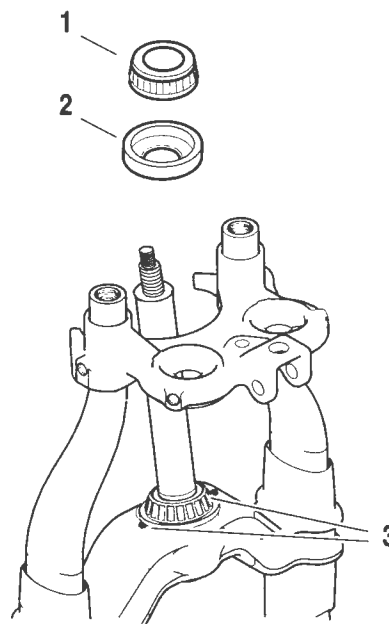

Figure 2-103. Fork Stem Bearings
1. See Figure 2-103. Remove bearing (1) and dust shield (2) from fork stem.